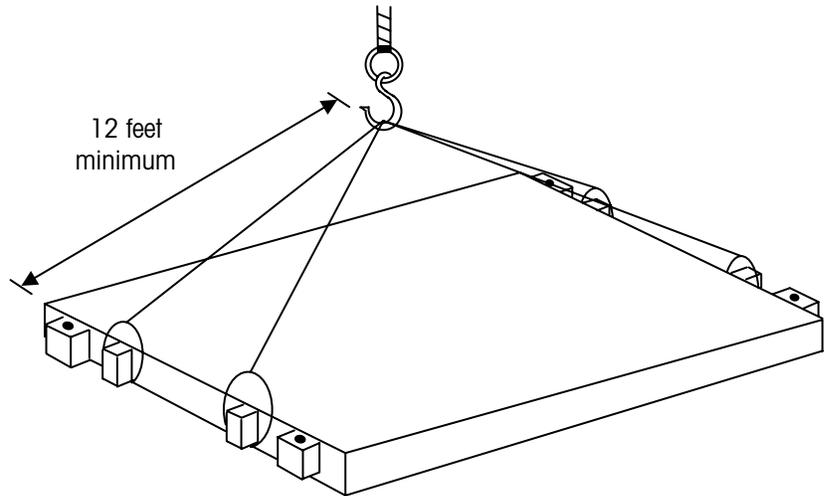
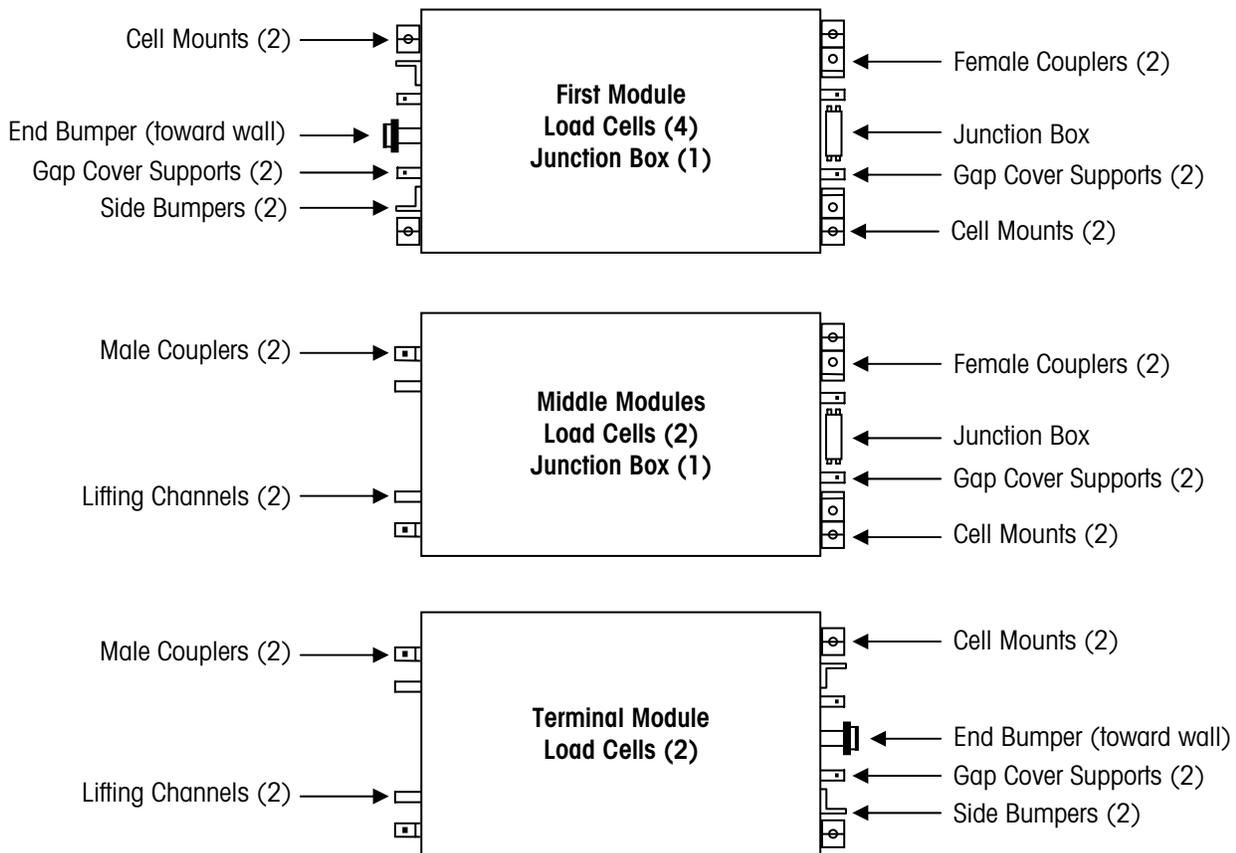

Figure 3-1: Module Lifting Procedure
Figure 3-2: Types of Modules
If a METTLER TOLEDO truck is delivering the 7562 truck scale, the METTLER TOLEDO driver will handle and supervise unloading. Otherwise, unload the modules by lifting them as shown in Figure 3-1. Remove the gap and load cell covers before lifting, so that the covers are not damaged. Lift the modules with a quadlift chain attached to the gap cover supports. Approximate 7562 module weights are listed in Table 3-1.
Figure 3-2 shows the three types of modules. Make sure that the bottom module is stored off the ground. We recommend placing lengths of 4" x 4" lumber under pair of modules. Place additional lengths of 4" x 4" lumber between each pair of modules. Store all other mechanical accessories, electrical instrumentation, and load cells in a clean, dry area. If the modules will be stored for more than one month, the cable connectors should be filled with dielectric compound (TN203056).
- a. The First Module to be set in place is the module that requires four load cells (see Figure 3-2). Lift the module as shown in Figure 3-1. Before setting this module in place, make sure that the end bumper assembly and side bumper bolts have been installed. Position the module so that the end with the end bumper and side bumpers faces the approach wall. The first module should be